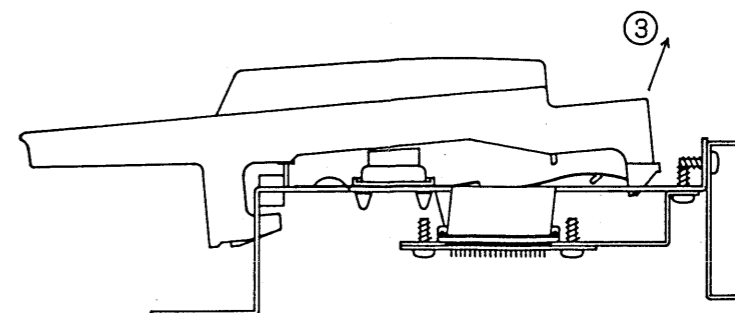

Fig.5
3. Taking care not to distort the spring, lift the key in the direction of ③ as shown in fig.5.